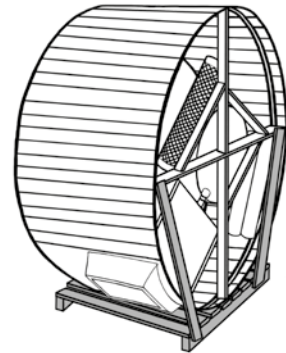

Fig. 2
- 2 Remove the sections of flue from the underside of the Eco Tub (as seen in Fig. 2).